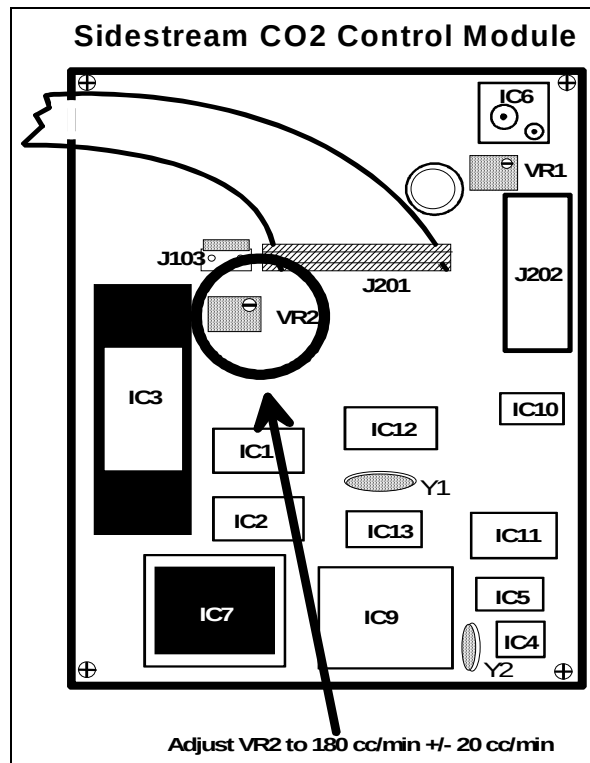

FIGURE 7-14 Sidestream CO₂ Control Module
4. Adjust VR2 on the CO₂ Control Module P/N 0670-00-0118 to achieve a flow rate of 180 cc/min, ± 20 cc/min. Refer to Figure 7-14.